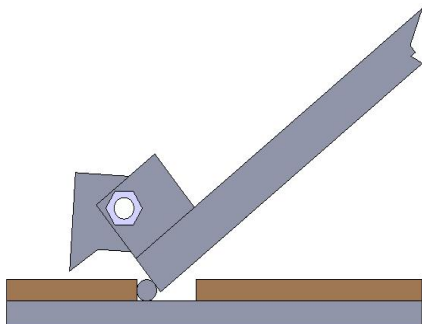
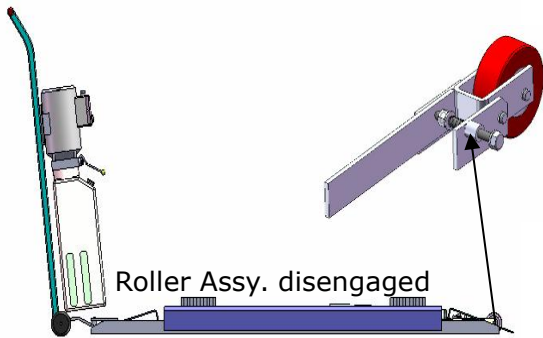

Fig.14
Fig. 16
2. The roller must be disengage when lifting vehicle (**See Fig.16**). To raise and lock the lift: Press the button up till the lift is raised to the required height and the locks are in engaged (**See Fig.14**), then push release handle of the power unit, the lift would be locked.
5. Move lift: Pull up roller bracket, lock two roller to the lift with roller shaft. (See Fig. 16& 17). Moving the lift by the power unit stand.